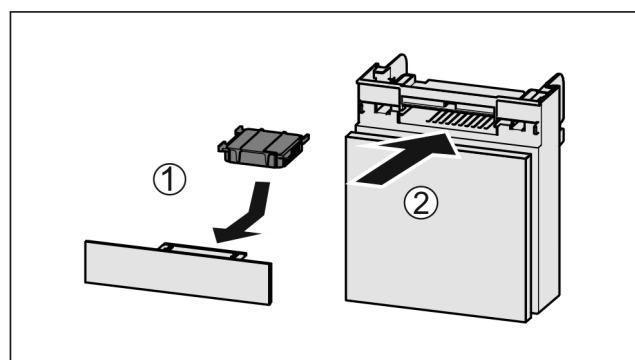

Fig. 39
- Insert the carbon filter as shown in the diagram Fig. 39 (1).
- Push the compartment in Fig. 39 (2).